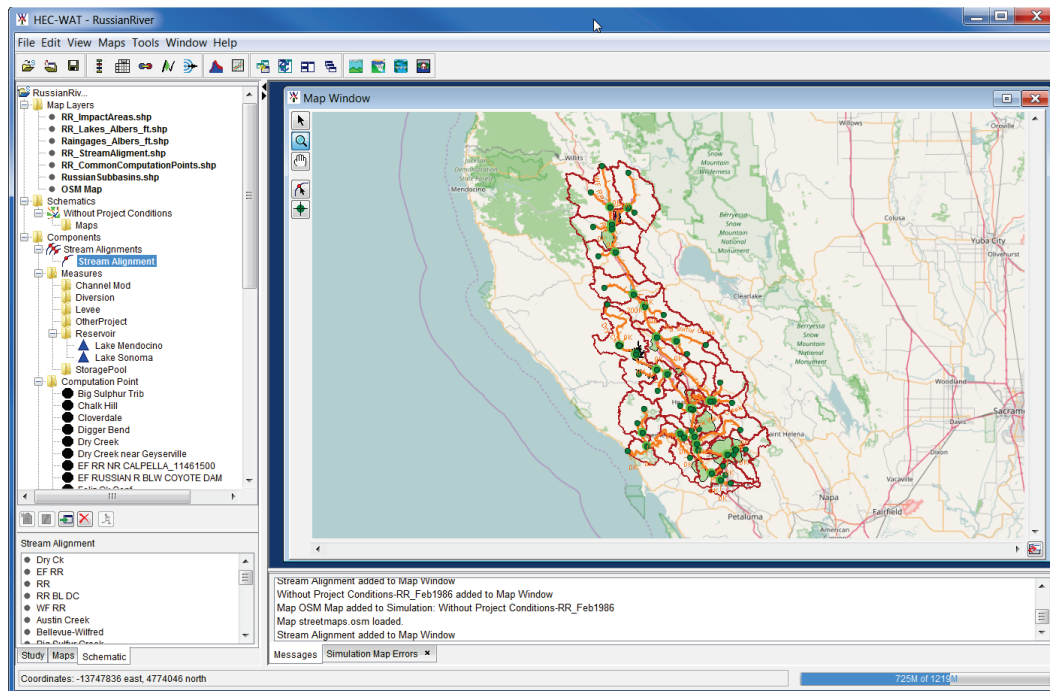

Figure 3.17 Display Stream Alignment Map Window from Schematic Tab
2. For example, in Figure 3.17, from the **Schematics** tab, right-click on *Stream Alignment*. From the shortcut menu, click **Display in Map Window** and a map window will open displaying the elements for the stream alignment.